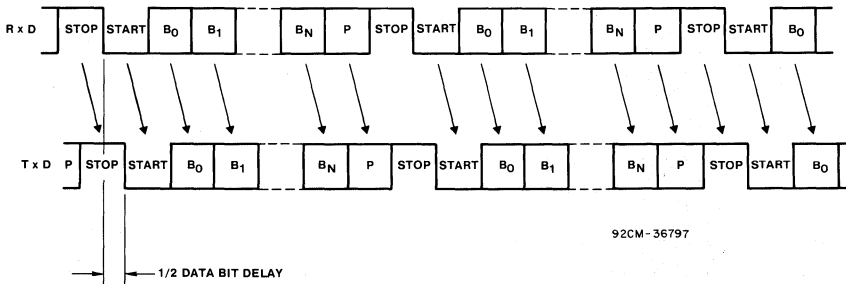

Fig. 13 - Echo mode timing.
**Echo Mode Timing (Fig. 13)**